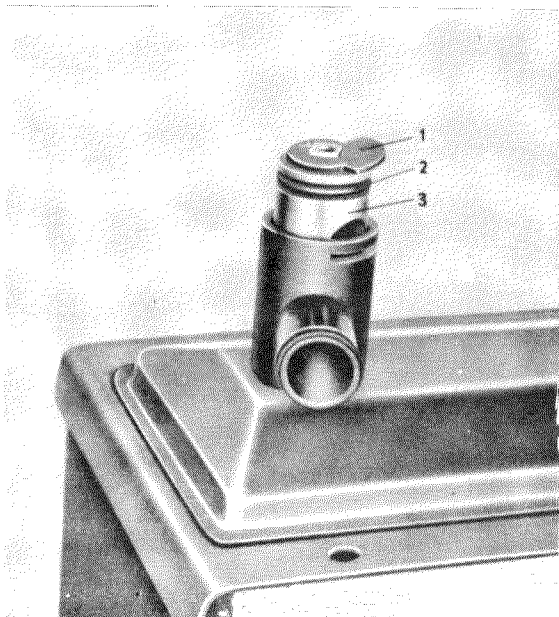

Fig. 83—2/1
3. Pull the stop disk (1) out through the slot in the housing.
Note: The stop disk (1) limits the regulating range and at the same time serves as an end locking device for the plug (Fig. 83—2/1).